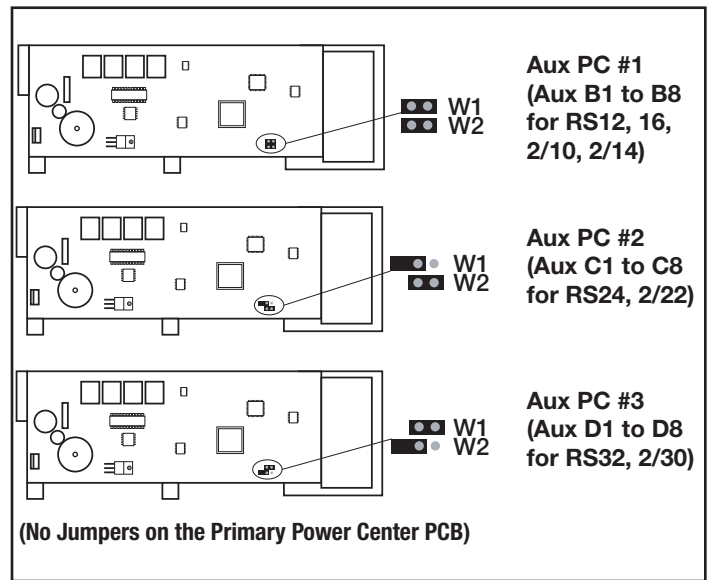

Figure 23. Setting Jumpers for Multiple Auxiliary Power Centers
- Never put more than two (2) wires into each of the pins of the red, 4-pin terminal bar (use a Jandy® multiplex board).
- If more than one auxiliary power center is installed, set the jumpers as shown in Figure 23.